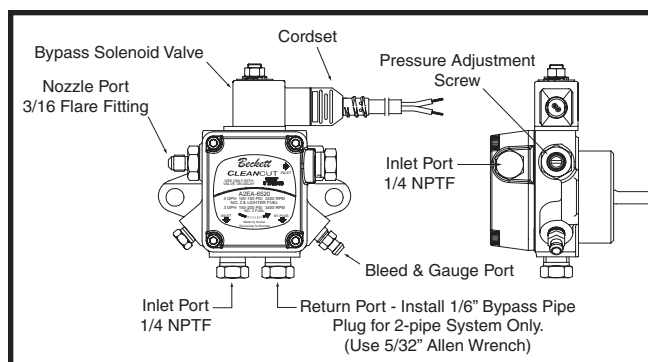

Figure 15. Oil Pump
2. Attach 1/4" I.D. plastic tube over the end of the airbled valve on the oil pump as shown in Figure 15. Place the other end of the tube in a large container.